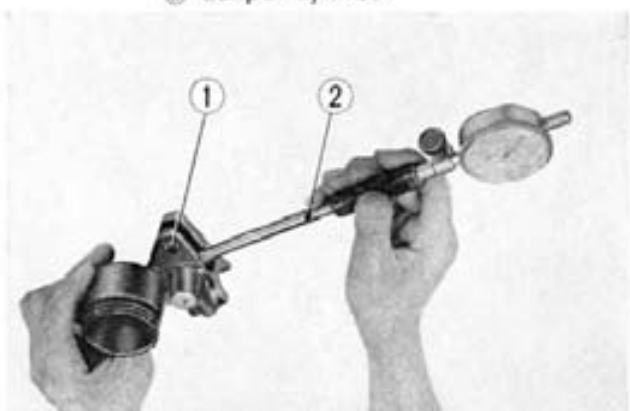

Fig. 14-11 ① Master cylinder dody
4. Master cylinder piston (Fig. 14-11)